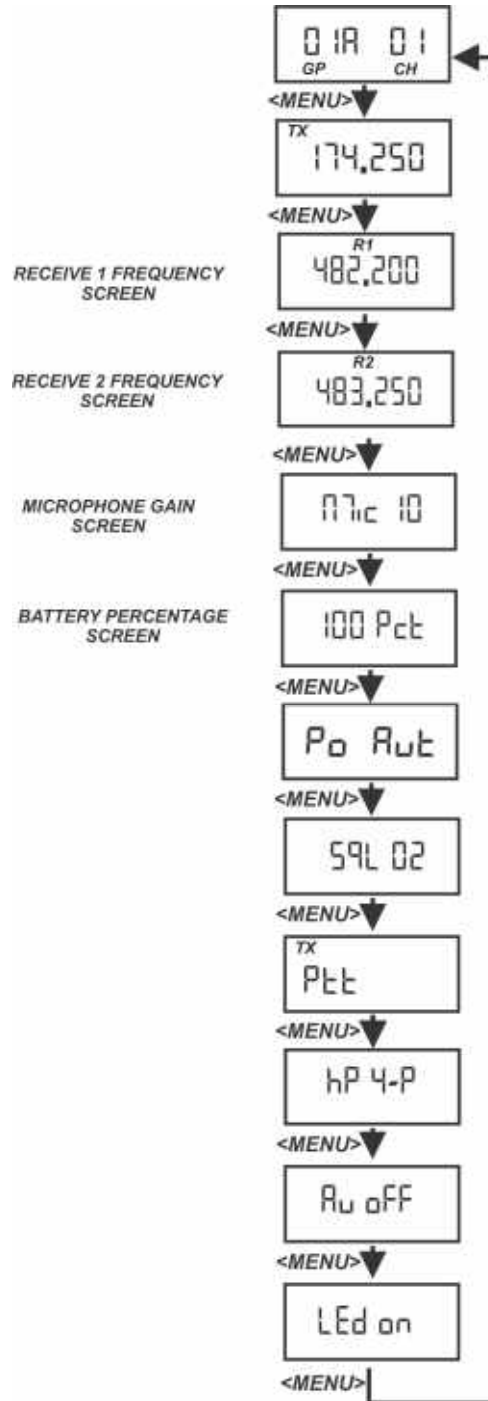

FIGURE 74. Receive Frequencies
1. Set the **unit** to the desired user-defined group and channels. See *Groups and Channels Instructions*. The menu structure in Figure 74 indicates how to get to the receive frequency screen.